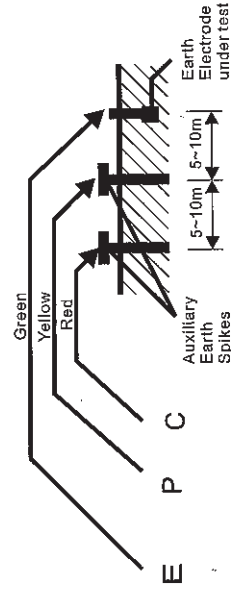

Fig.1
- (1) Connect green, yellow and red test leads to instrument terminals E, P and C with auxiliary earth spikes P1, C1 stuck into earth "IN A STRAIGHT LINE". (Fig. 1)
- (2) Rotary the function switch to suitable range then press the pushbutton to test and take the reading.
- (6) Since measuring current is as low as 2 mA, the earth leakage breaker (ELCB) does not trip even if the earth side of the commercial power supply with an ELCB is used.
*** Follow the proper connection such as Fig. 1, the LED (red) indicator will lit. This proves a correct current circulation is under its operation.**